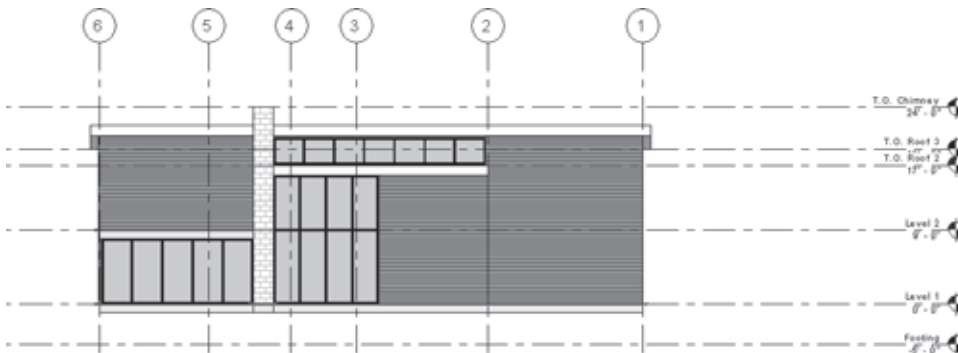

Figure 4.88
5. Open the north elevation. In this view, you can see the effect of the curtain walls you just made, as shown in Figure 4.88.